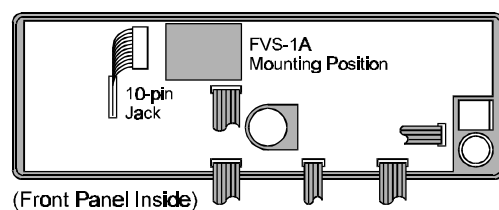

Figure 5
- ③ Inside the front panel, locate the unconnected 10-pin jack, and connect the **FVS-1A** here (see Figure 5).
- ④ Set the **JA**nese/**EN**glish switch on the **FVS-1A** to the desired position, and then affix the **FVS-1A** board into place using the double-sided adhesive tape on the flat surface of the **FVS-1A** IC.
- ⑤ Fold the front panel back into place, and replace the covers and carrying handle.